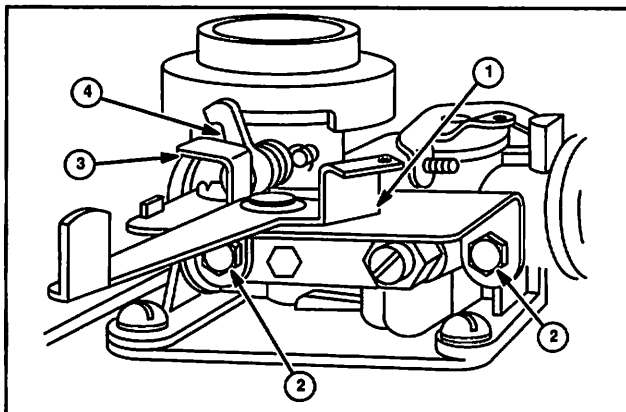

Fig. 56
Manual or remote control for choke and stop is done by a lever on control plate mounted to carburetor by two screws (2) Fig. 56. Lever for remote control has a loose fit; for manual control, a friction fit.
1. To check lever action, move lever (1) to left until it snaps into "RUN" detent.
2. Lever (3) should just touch choke lever at (4).
3. If it does not, loosen screws (2) slightly and move control plate to right or left until lever just touches choke lever at (4).